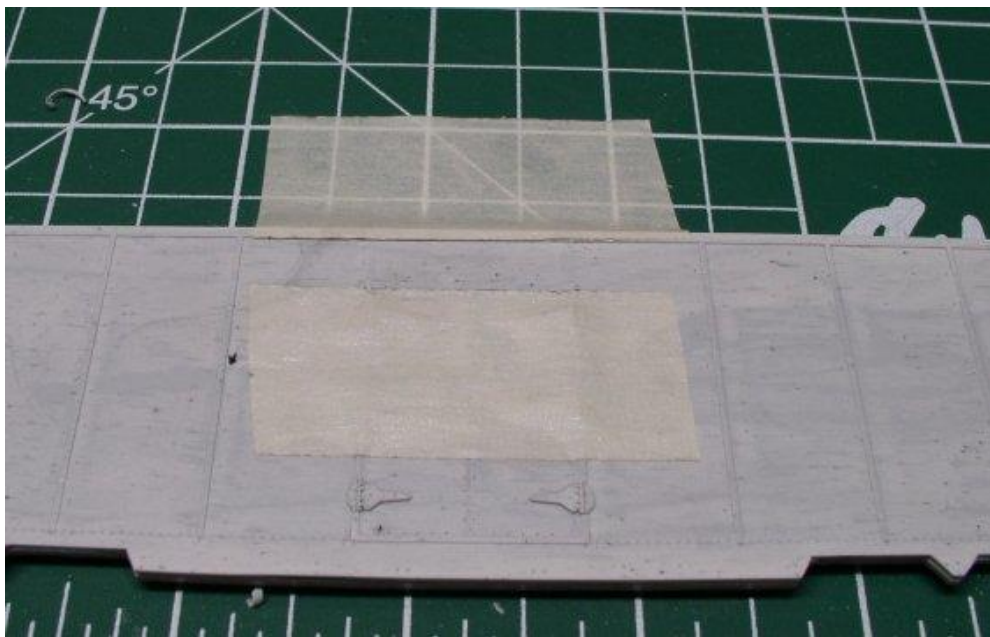

Figure B2
2. *Early Repair Patch Instructions* – Use masking tape to tape down the car side making sure you cover the top rivet strip. Run a second piece of tape just underneath the drip strip. This will cover the areas to protect the details as shown in Figure B2.